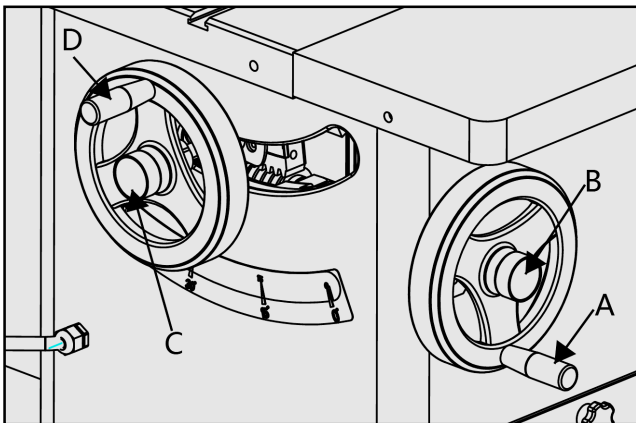

Fig. 20
The outlet diameter of is 100 mm . **Fig.20**
To raise or lower the blade, loosen the lock knob (C) As shown in **Fig. 20** and turn the elevation hand wheel (D). When the desired height is obtained, retighten the lock knob. The blade should be raised 1/8" to 1/4" above the top surface of the material being cut with hollow ground blades. The blade should be raised to the maximum to provide chip clearance. To tilt the saw blade, loosen the lock knob (B) and turn the hand wheel (A). When desired angle is obtained, retighten the lock knob. Refer to **Fig. 20**.